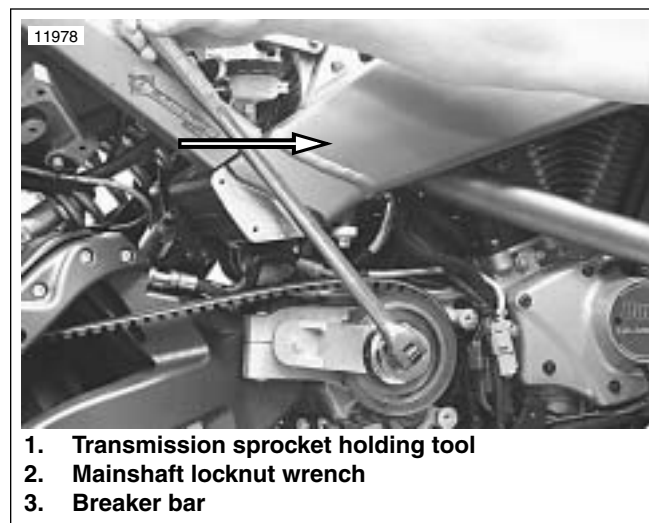

Figure 6-101. Removing Transmission Sprocket Locknut
9. See Figure 6-101. Place transmission in neutral. Install the P3/Blast SPROCKET HOLDING TOOL (Part No. B-43982) to hold the sprocket.
10. Remove transmission sprocket nut (3) from main drive gear (5) using MAINSHAFT LOCKNUT WRENCH (Part No. HD-94660-37B or HD-46288) and a breaker bar.
11. Remove secondary drive belt from transmission sprocket. Remove transmission sprocket (4) from main drive gear (5).